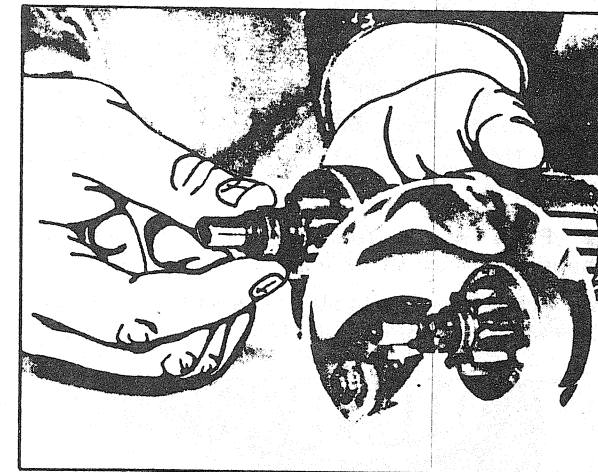

FIGURE 12
- Hold the armature securely on the worktable then slide the over-running drive and stop ring onto the armature shaft. (Fig. 12).